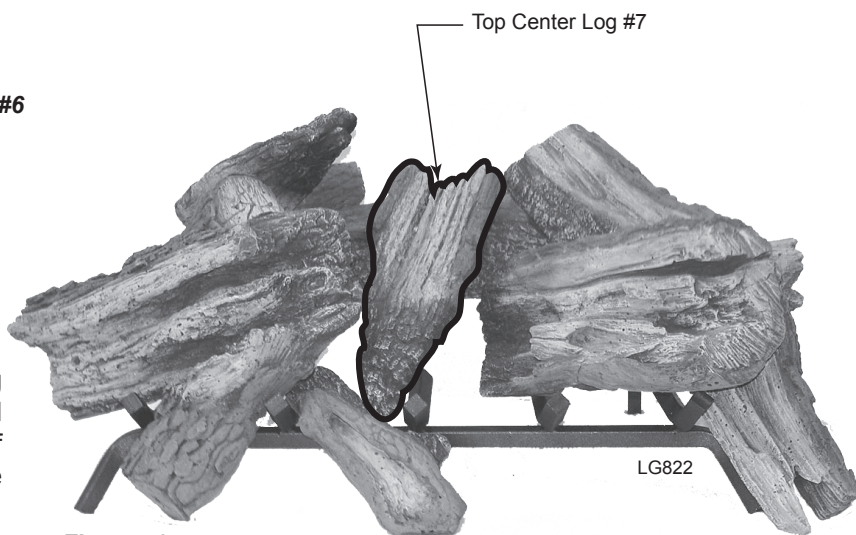

Figure 53 - Place Top Center Log #7
7. Place wide end of Top Center Log #7 on Rear Log #1. Rest narrow end of Top Center Log #7 to the left of center grate bar barely touching the Mid Log #6. *Figure 53*